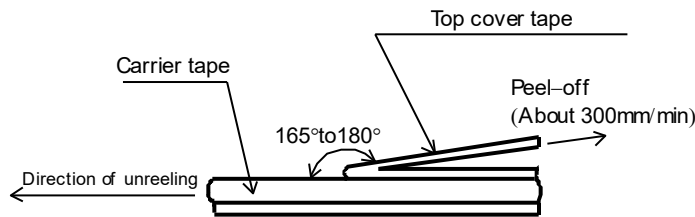

Figure-6
- 5). The peel strength of the top cover tape shall be with in 0.1N to 0.5N on the test method as shown in the following Figure-6.